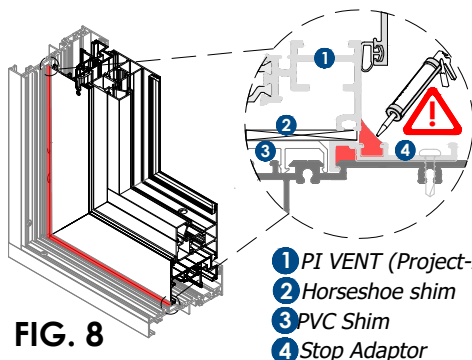

FIG. 8
- Apply continuous "Heel" bead around the interior vent/stop adaptor. **See FIG. 8**